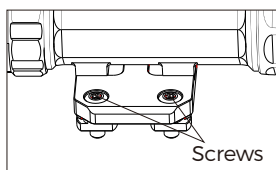

Fig 6
- 2) Insert the two t-nuts into the M-LOK slots, ensuring the t-nuts rotate into a perpendicular position to the slot, and then use the included tool to tighten the screw to 15-20 INCH/lbs. (See Fig 6)